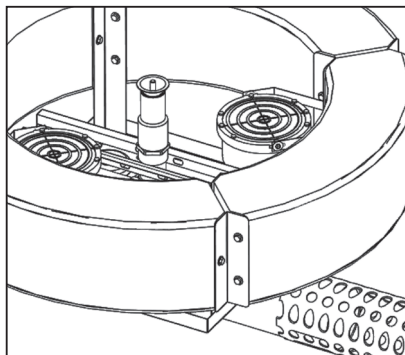

Fig.4
- If unit has shifted during shipment, slightly loosen clamp rods that secure discharge pipes to realign nozzles, retightening when complete. (Fig.4)